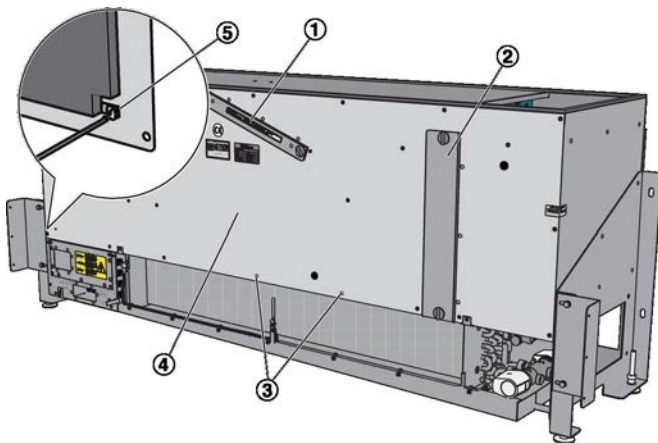

Fig. 25: Fixing the cover plate
1. ▶ Attach the protective earth conductor (Fig. 25/5) to the cover plate (Fig. 25/4), then put the cover plate back on the ventilation unit. Fix the cover plate with the Phillips screws (Fig. 25/3).
2. ▶ Replace (Fig. 25/2) the coarse dust filter (Fig. 25/1) and fix the cover of the fine dust filter Fig. 25.